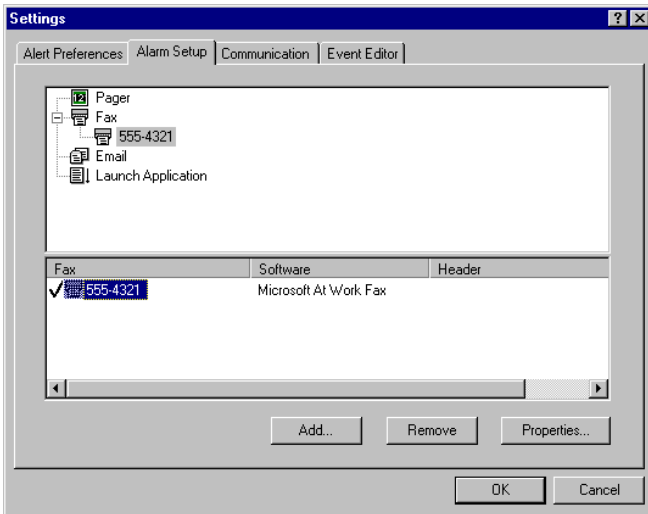

Figure 4-13. Fax Alarm Setup
1. Select the Fax alarm type in the upper window of the Alarm Setup dialog box (Figure 4-13).
Your new Fax entry appears in the lower window of the Alarm Setup dialog box. (Refer to Figure 4-13 for an example.)